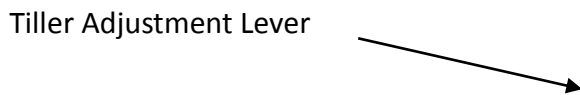

Figure 8. Tiller Angle Adjustment
1. Remove seat and rear shroud. Please see Figure 8. "Disassembly and Assembly."